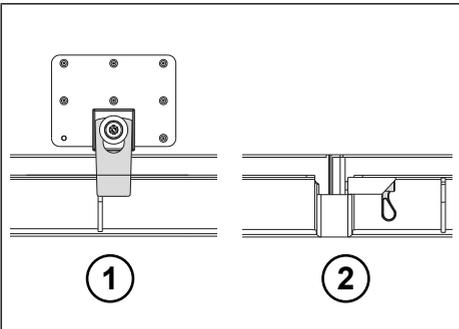

Fig. 6-20: Lock
- ▶ Release the fall protection / spring catch (see "Fig. 6-20: Lock", pg. 64).